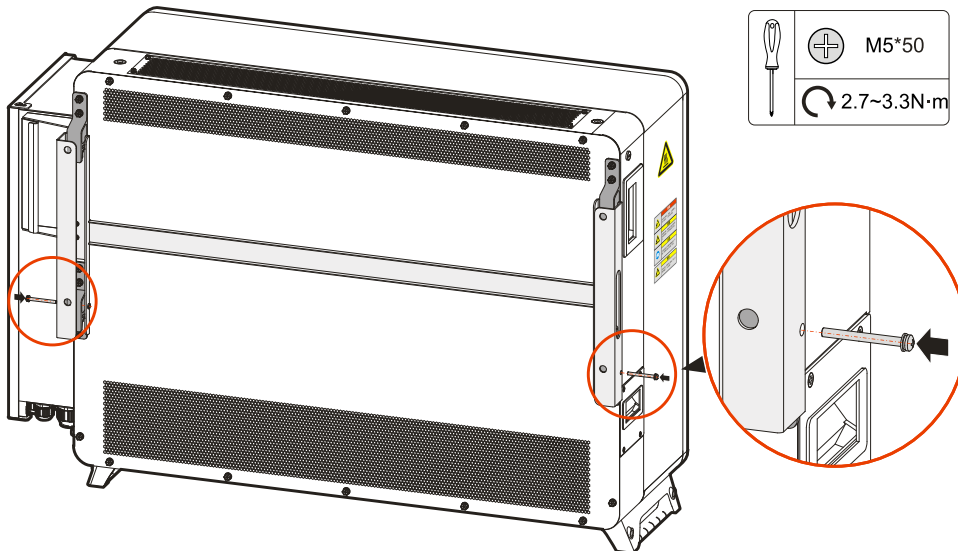

Figure3-25 Inverter fixed
- Step 7 Use the screws M5*50 in the accessories to fix both sides of the inverter on the wall bracket, as shown in Figure3-25.